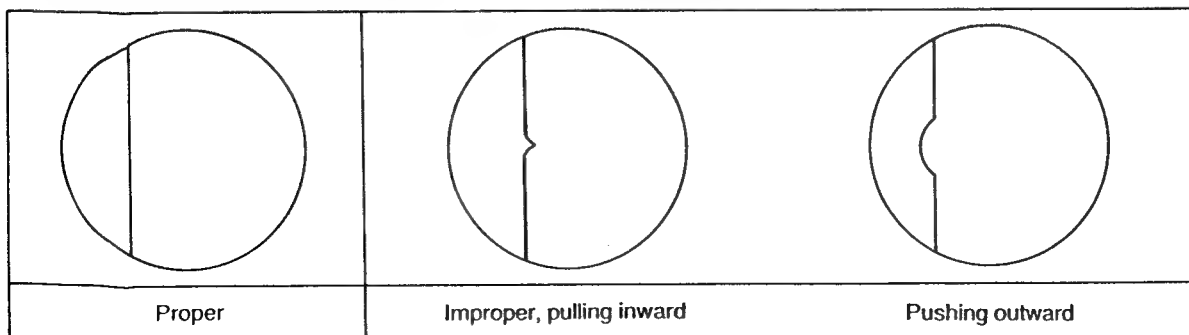

Fig. 52
- 3) Adjust VR153 on the ADJUSTMENT board so that the straight object appears straight with no "pushing" or "pulling" near the center of the picture. See Fig. 52.